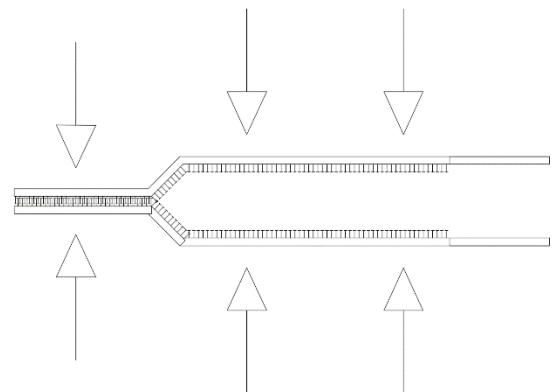

Figure 1
2. Fold loop lock adhesive strip onto itself and press firmly to engage loop locking mechanism. Figure 1